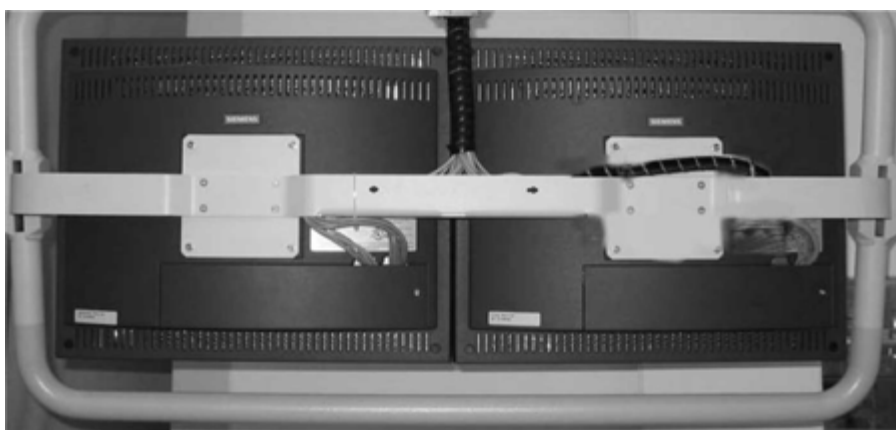

Fig. 39: Monitor installation
- Remove the cable ties at the traverse element (Fig. 39 / p. 64).